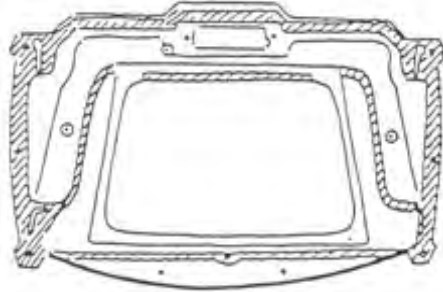

Fig. C-2
STEP 8: Cement all channels, flanges and mating surfaces indicated in Figure C-2. Do not allow any cement to contact the thermostat cable. Place the primary air tube cover plate in position on the stove bottom and secure with 3 each, Phillips flat head machine screws ($\frac{1}{4}$ -20 x 2").